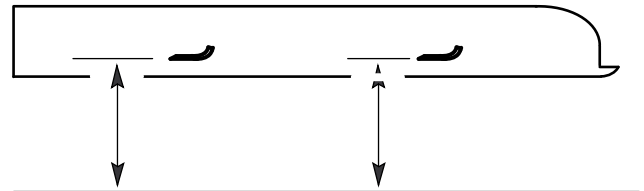

Figure 40
2. Measure from a level surface to the cutting edge, position A, of the blades (Figure 40). Note this dimension.